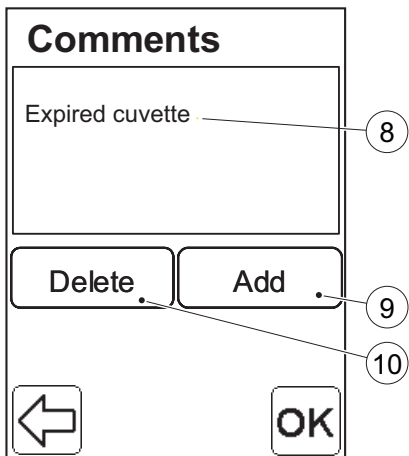

FIGURE 4-21
- c) Press the Scroll bar arrows (4) to select a Comment (5). In this example: *Expired Cuvette*.
- d) Press the Add button (6). *FIGURE 4-21* will be displayed.